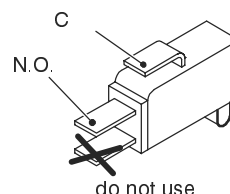

Fig. 12.3
- 2 Measure the electrical resistance between the tabs marked C. and N.O. (Fig. 12.3). The contact must be normally open.
- 4 Re-assemble the parts in reverse order of removal. Refer to Fig. 12.3 for the correct wiring connectors on the switch